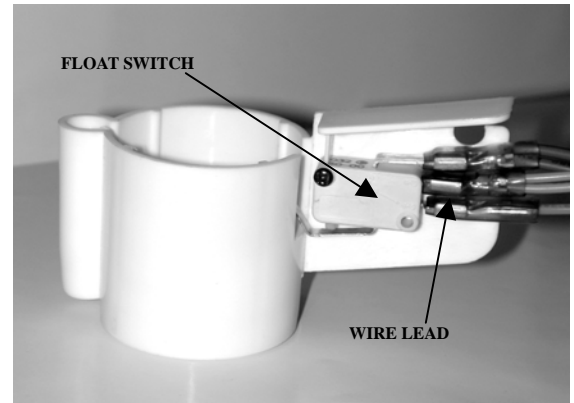

Figure 6
- 4. Install new float switch and reverse procedures to complete repairs (See figure 6).**